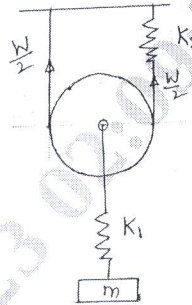

Fig.Q7(c)
- c. Determine the frequency of vibration of the system shown in Fig.Q7(c). Use the following data $m = 10$ kg, $K_1 = 200$ N/m, $K_2 = 400$ N/m.